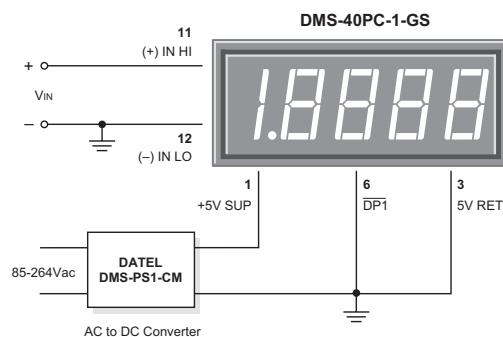

Figure 2. Single-Ended Input Configuration
**1. Single-Ended Input Configurations:** The DMS-40PC can measure single-ended signals with either positive or negative polarities. True single-ended inputs always have one of their two terminals at the same potential as the DMS-40PC's 5V RETURN (pin 3). Single-ended inputs are usually derived from power supplies that have a common ground with the meter's +5V supply. Figure 2 shows the recommended connections to be used with this type of input. Pin 12, (-) INPUT LO, is shown directly tied to ground. This connection to ground must be a separate wire or pc-board trace originating at  $V_{IN}$ 's negative terminal. This hook-up will normally eliminate display instabilities and errors caused by ground-loop currents which can occur if (-) INPUT LO is tied to ground at, or near, pin 3.